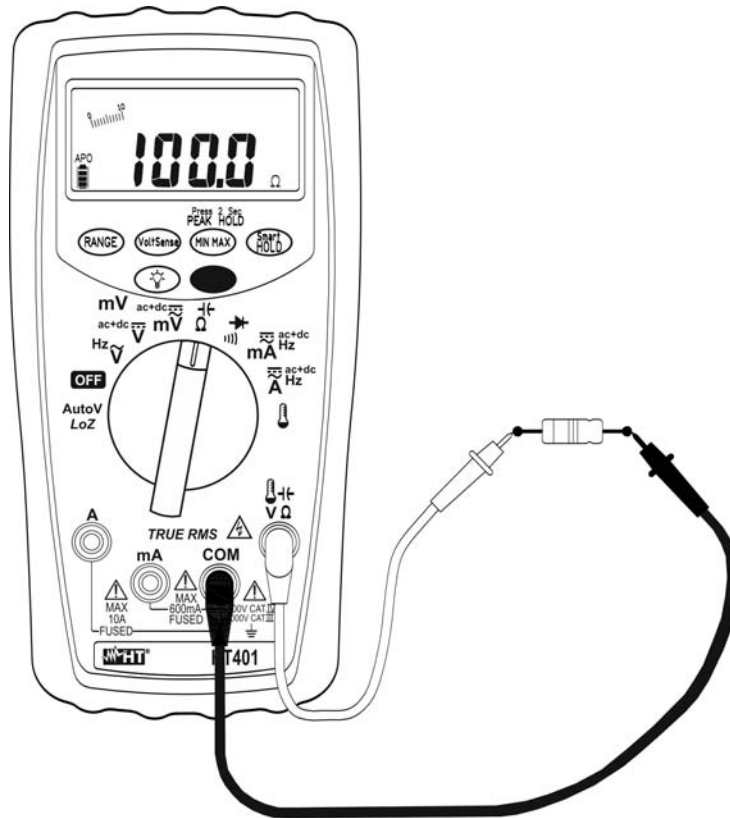

Fig. 7: Resistance measurement
4. Position the test leads in the desired points of the circuit to be measured. The value of resistance is shown on the display (see Fig. 7)